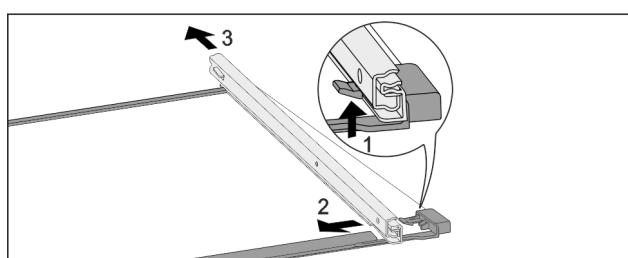

Fig. 159 Glass shelf with rails
- ▶ Push up front click-in hooks. Fig. 159 (1)
- ▶ Move the pull-out rails to the side Fig. 159 (2) and to the rear Fig. 159 (3).